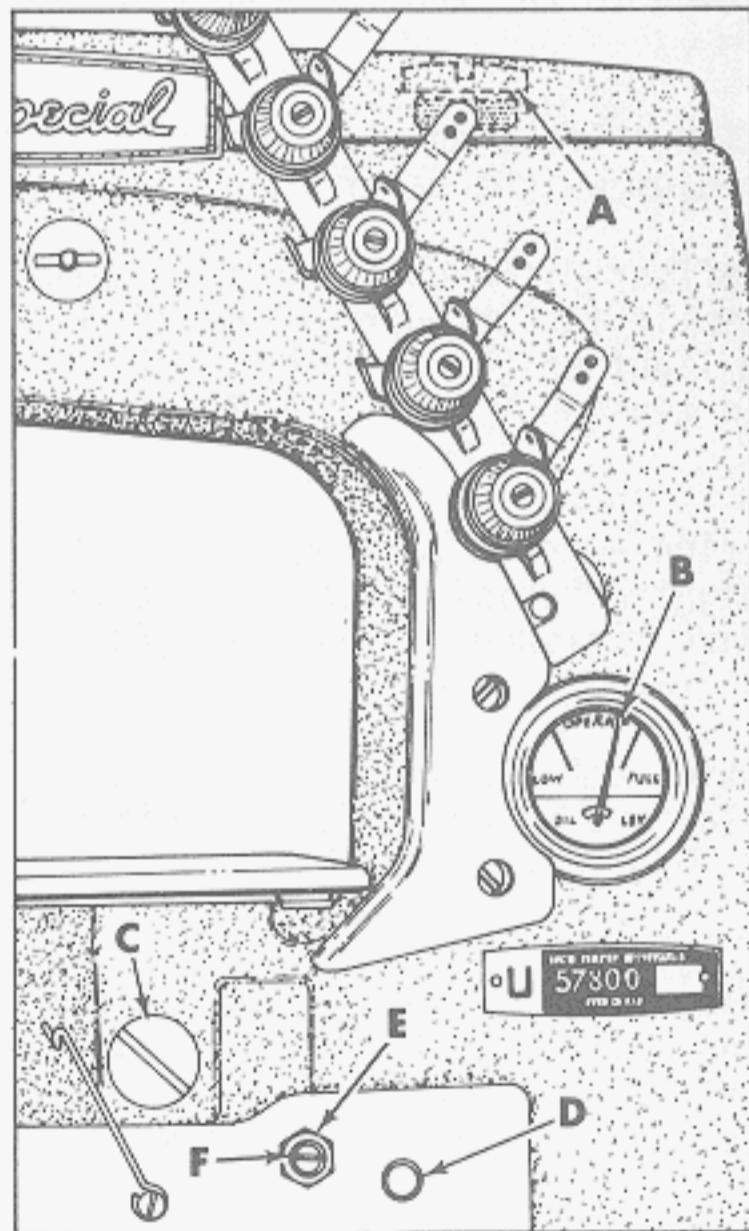

Fig. 1
Before operating, fill machine with oil at plug screw (A, Fig. 1). While filling machine with oil, check gauge (B). When proper oil level is reached, gauge needle will register on black line marked "FULL". Oil must be added when gauge needle registers on black line marked "LOW". Although the machine can be operated safely when gauge needle registers in the "OPERATE" zone, it is recommended to always check oil level before operating, to be sure machine is filled with oil to the "FULL" mark. CAUTION: DO NOT over fill machine.